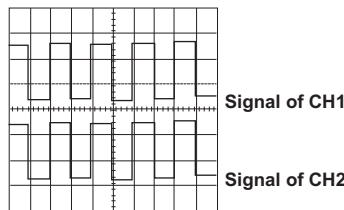

Figure 4-4
Now, apply the calibrator signal to the vertical input terminal of CH2 with the probe as is the case for CH1. Set the AC-GND-DC switch to the AC state. Adjust vertical POSITION knobs(11) and (19) so that both channel signals are displayed as shown in Figure 4-4.